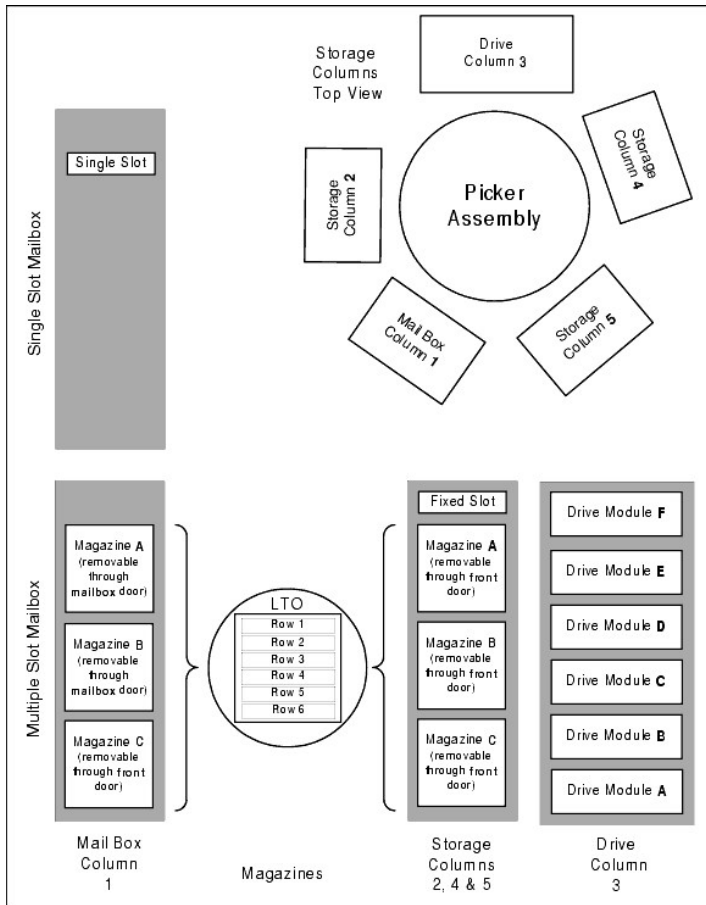

Figure 6. Storage Column Topography
Step 4 Refer to Figure 6 for the storage column topography and perform one of the following two steps depending on the column you are installing: